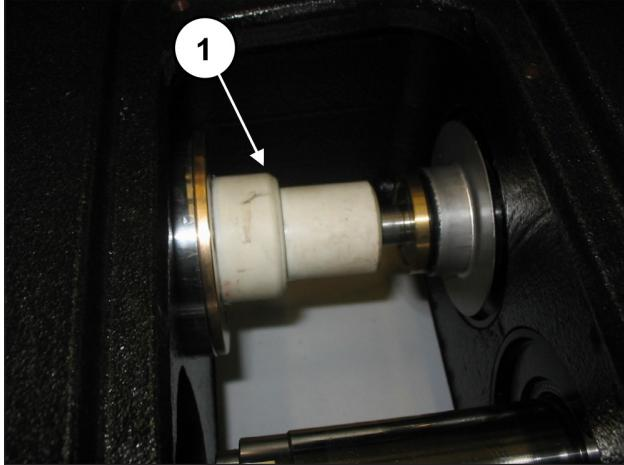

Fig. 141
Insert the buffering tool code 27516600 between the piston guide and the piston (pos. ①, Fig. 141).